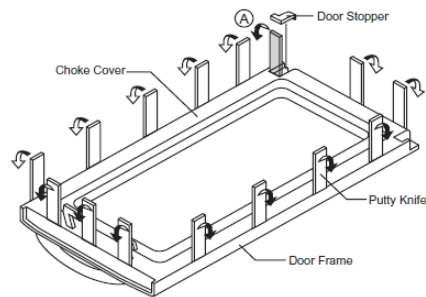

Figure C-3. Door Disassembly
4. Remove the three (3) screws holding the hood exhaust louver to the oven cavity front face plate.
6. Insert a putty knife (thickness of about 0.5mm) into the gap A between the door stopper and the choke cover as shown in Figure C-3 to free engaging parts.
8. Insert a putty knife (thickness of about 0.5mm) into the gap A between the choke cover and door stopper and between the choke cover and the door frame as shown Figure C-3 to free engaging parts.
9. Pry the choke cover by inserting a putty knife in order shown in Figure C-3.